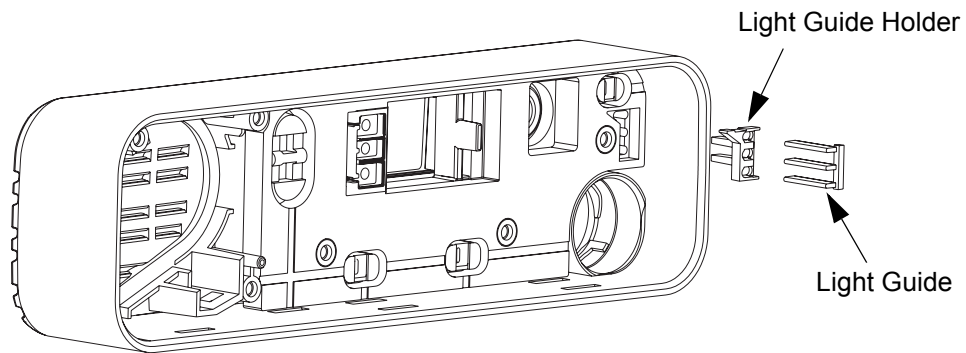

Figure 5-35 Light Guide and Light Guide Holder Assembly
4. Assemble the light guide and light guide holder into the keypad slot as shown in Figure 5-35.